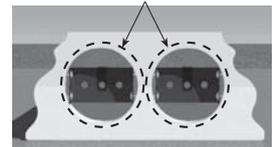

FIGURE 4C
**C)** Apply a 1/4" bead of urethane base adhesive on each end of the BALUSTER BOTTOM RAIL (FIG. 4C).